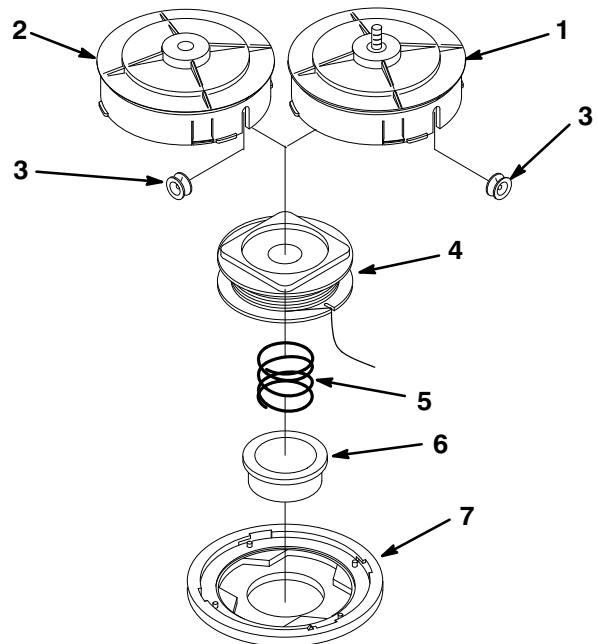

Figure 20
1. Unlock the spool cover by depressing the tab and turning the cover clockwise (Figs. 20).
2. Remove the cover and bump knob (Figs. 20).
3. Remove the spool. Make sure the metal eyelets and spring do not fall out (Figs. 20).
6. Insert one end of the new line through the hole in the spool shaft (Figs. 20).
8. Thread the two ends of the line through the eyelets (Figs. 20).
9. Replace the bump knob and spool cover. Align the pointed projections and turn the cover counterclockwise (Figs. 20).